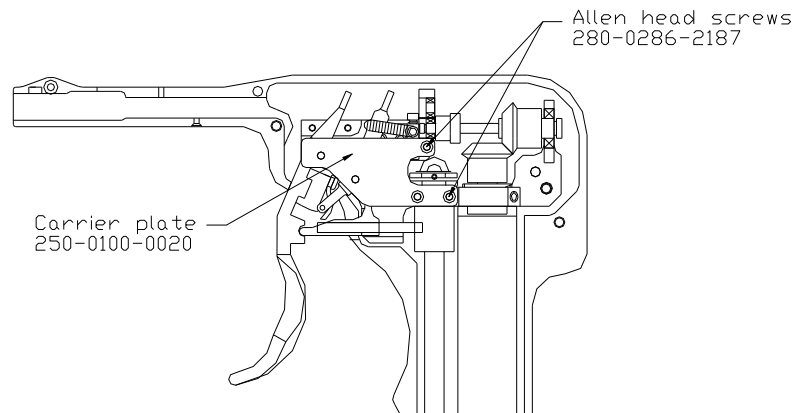

Figure 6.
- i. Position a carrier plate (Part No. 250-0100-0020) over the dowel pins of the carrier and the L-block. Use two Allen head screws to secure the carrier plate (see Figure 6).